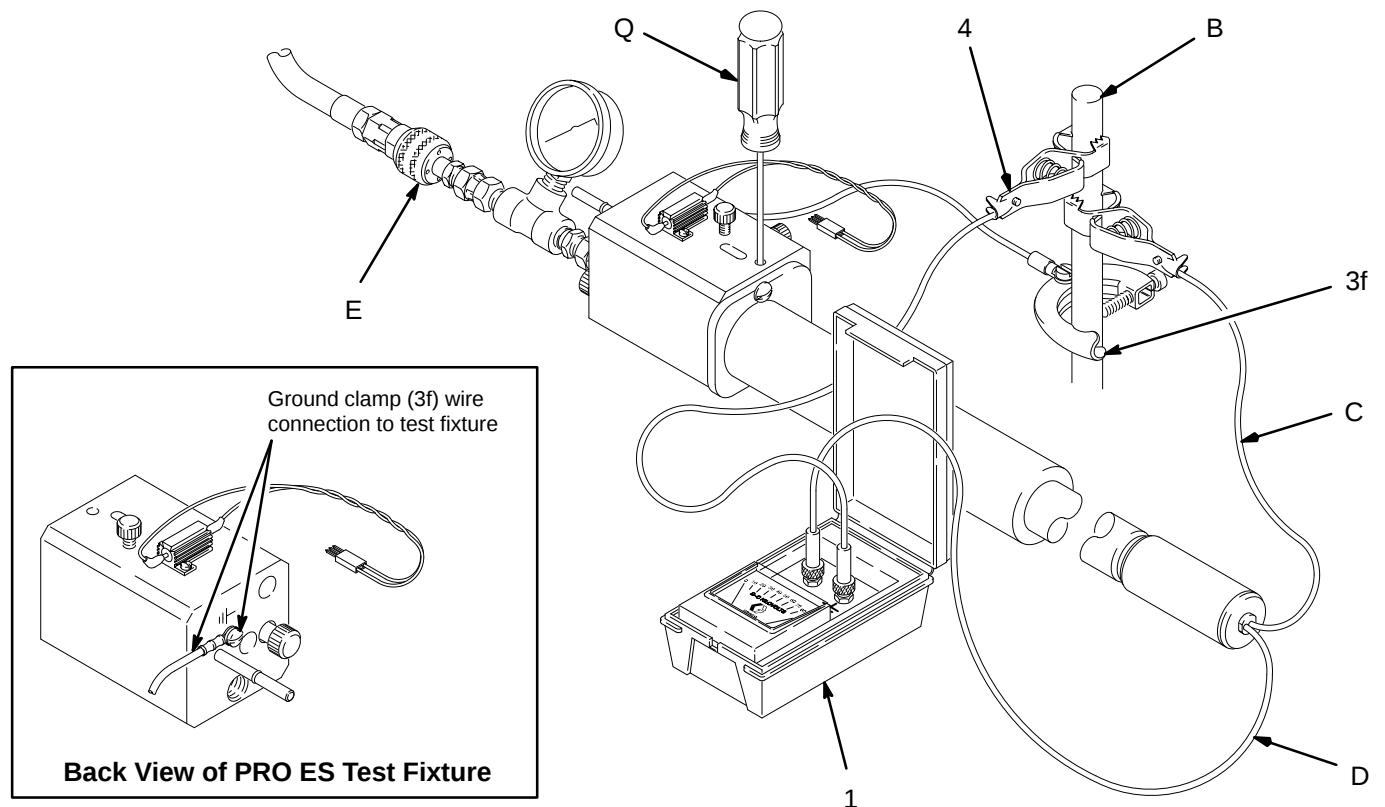

Fig. 7
5. *PRO 4000 and PRO 5000 Guns Only:* Insert the alignment sleeve (5) into the shroud (3k).
6. Secure the shroud (3k) to the fixture (H) with the screw (3m).
8. Insert the probe (2) into the shroud (3k) and touch its tip to the end of the power supply.
9. Connect the probe's red wire (D) to the KV Meter and its green/yellow ground wire (C) to a true earth ground (B). See Fig. 7.
10. Connect the KV Meter's green/yellow ground wire (4) between the KV Meter and a true earth ground.
12. Connect an air line (E) to the fixture. Set the air pressure to 25 psi (1.7 bar).
2. If the low voltage setting of your power supply is adjustable, insert a small blade end screw driver (Q) through the fixture, as shown in Fig. 7, and into the cartridge's potentiometer to adjust it. Turn the screw driver *clockwise* to increase the voltage or *counterclockwise* to decrease it. See your gun instruction manual for more information on changing the power supply setting.